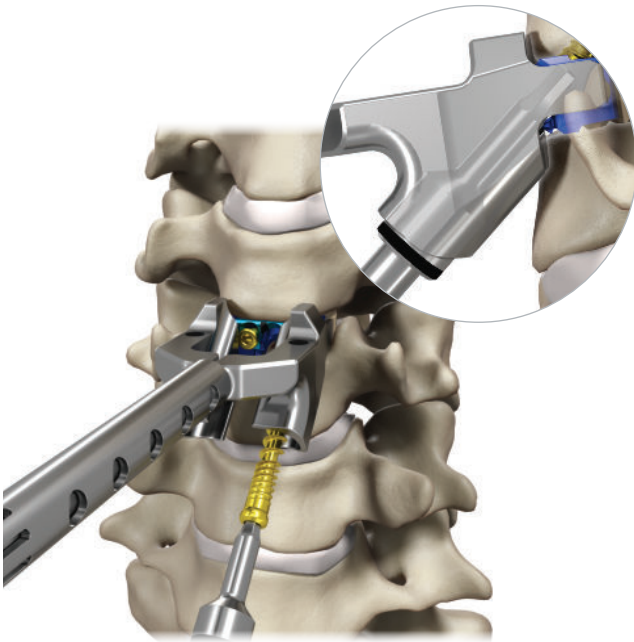

Figure 29
- Assemble the 2.0 mm hex driver and modular spin cap handle. Load the desired screw onto the driver and insert the screw through the first lateral screw hole until the screw head contacts the plate to stabilize the implant provisionally. Ensure that the driver is on axis to the prepared screw trajectory during screw insertion and final tightening (Figure 29).
- The driver laser marking approaches the edge of the guide tube to indicate the screw is nearly seated (Figure 29, inset).